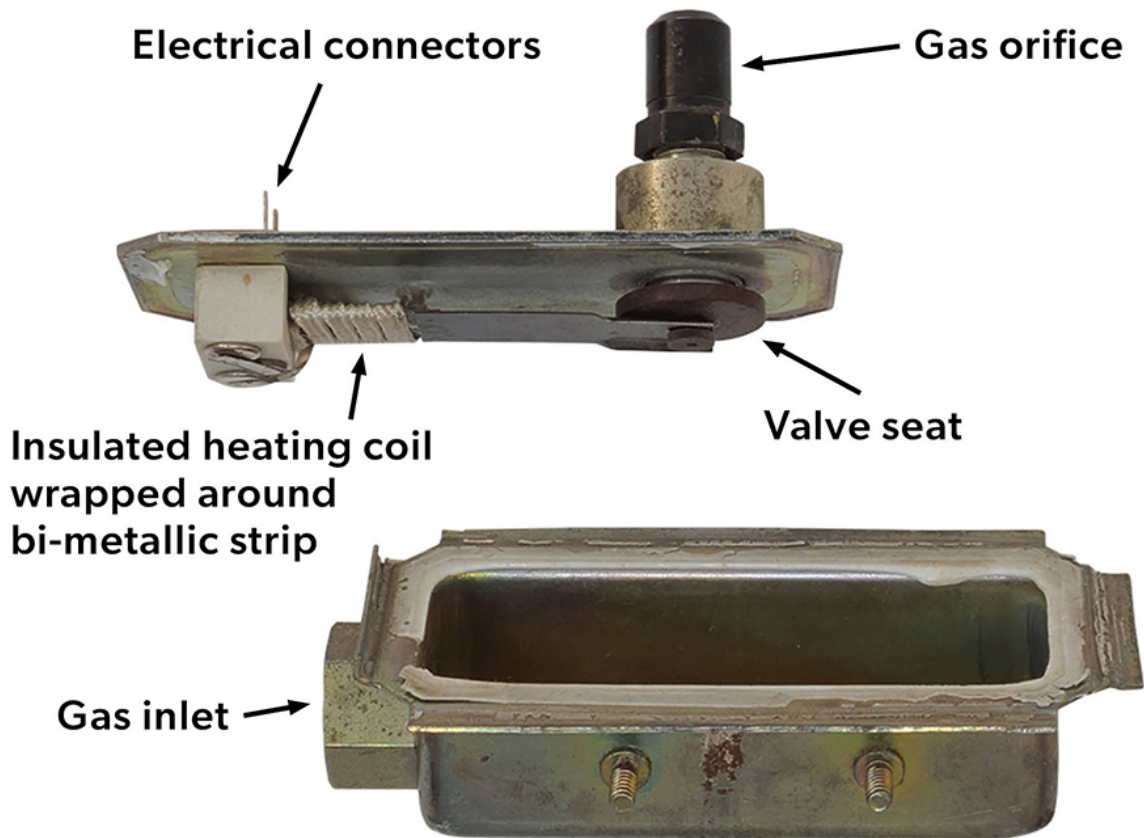

Figure 88. Oven gas valve internal components
Inside the gas valve there is a bi-metal strip that lifts the valve disc from its seat when the bimetal is adequately heated by the insulated heating element wrapped around its base (Figure 88).
- Figure 88. “Oven gas valve internal components” by Rod Lidstone is licensed under a CC BY-NC-SA licence.